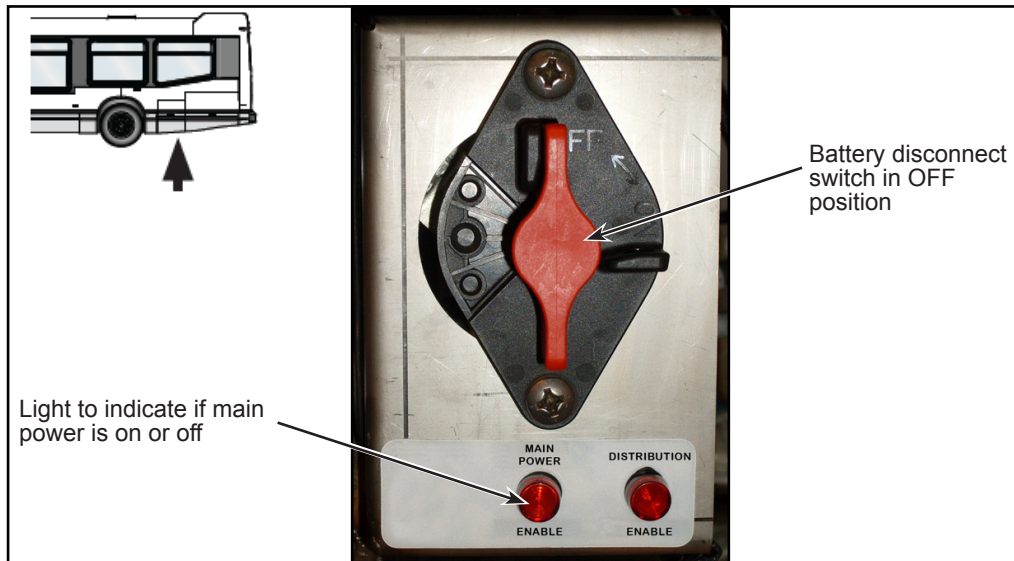

Figure 1 - Battery Emergency Disconnect Switch
- 1.2. Set the battery disconnect switch in the battery compartment to the OFF position. See Figure 1.